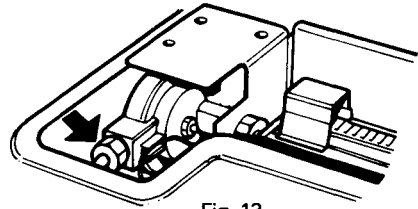

Fig. 13
3. From beneath the oven disconnect supply pipe from the flame supervision device (see Fig. 13).